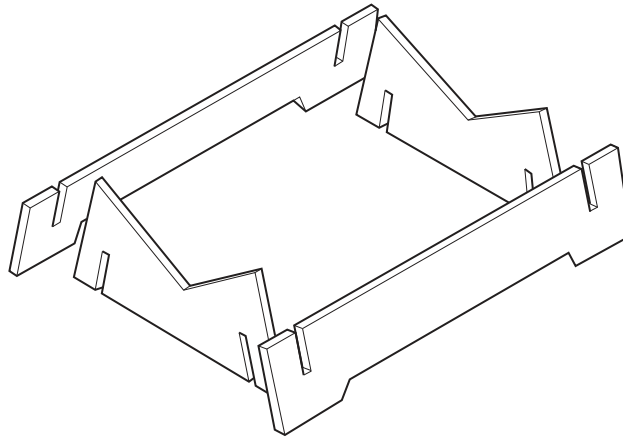

Fig. 12.5
- (g) Fig. 12.5 shows the parts of the display stand before they are assembled. The sides and ends are assembled without the use of an adhesive.